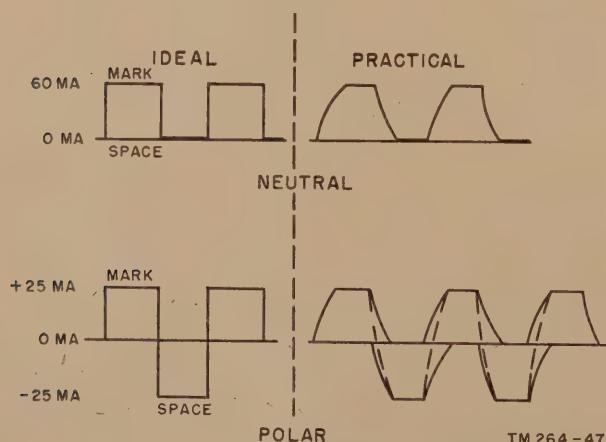

Figure 6. Neutral and polar waveshapes.
a. *Methods.* Two methods of transmitting TT signals on wire lines are normally used; the *neutral* system and the *polar* system. In the neutral system, use is made of *current on* and *current off* square-wave pulses of one polarity. The polar system uses positive and negative square-wave pulses. Figure 6 shows ideal and practical signal pulses. The transi-
- (1) The code should preferably use only two line conditions, such as current and no current.
- (2) The number of code elements per character should be a minimum in order to permit high-speed operation over relatively narrow-band telegraph circuits. (A greater keying speed is equivalent to more information per unit time; the more information that is transmitted in a given time, the greater the necessary bandwidth.)
- (3) The number of code units per character should preferably be uniform in order to give simple machine design.
d. The mark and space impulses used to operate a teletypewriter are pulses of direct current of uniform intensity (figs. 6 and 7). If oscilloscope test prods were connected across a line carrying these mark and space impulses, they would appear as a square waveform (fig. 6). It is very important that the transmitted impulse maintain its waveform when it reaches